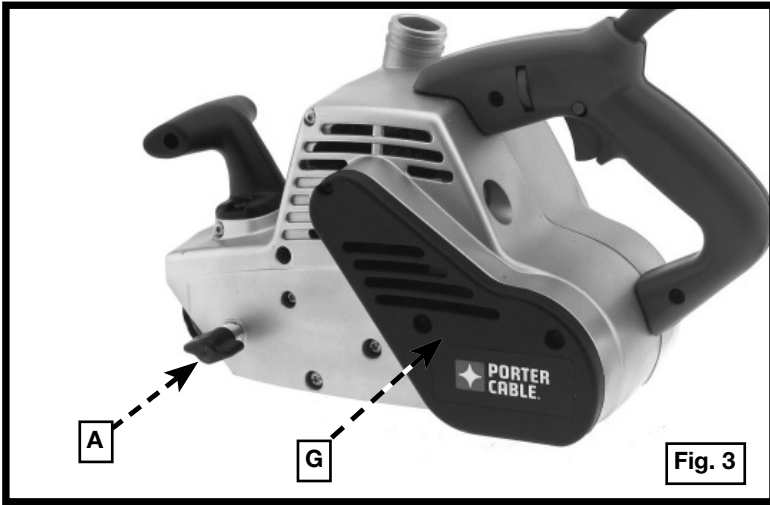

Fig. 3
▲CAUTION: To reduce the risk of injury, check to see that the belt guard (G) Fig. 3 is in place, secured, and working correctly.
1. Turn the tool over, rest the tool on its front handle, and grasp the rear handle with your left hand. Rest your ring finger and little finger on the trigger (Fig. 3).
3. Turn the belt aligning screw (A) Fig. 3 in either direction until the edge of the belt is even with the outer edge of the rear rubber-covered pulley. The edge of the belt will extend beyond the edge of the front pulley.